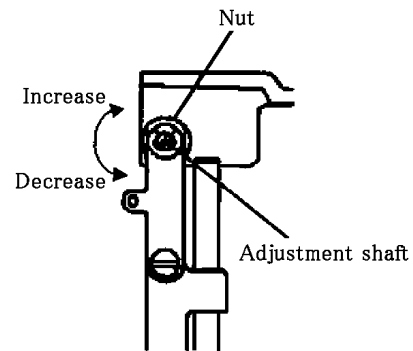

Fig.4
2. Loosen the adjustment shaft nut at the upper part of needle and adjust by turning the adjustment shaft.(Fig. 4)
3. Tighten the nut.(Fig. 4)